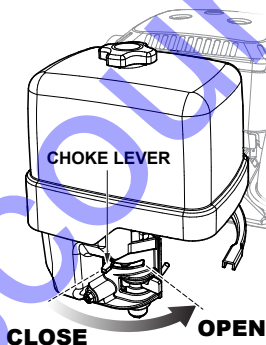

Figure 14. Choke Lever
3. Place the choke lever (Figure 14) in the **OPEN** position.